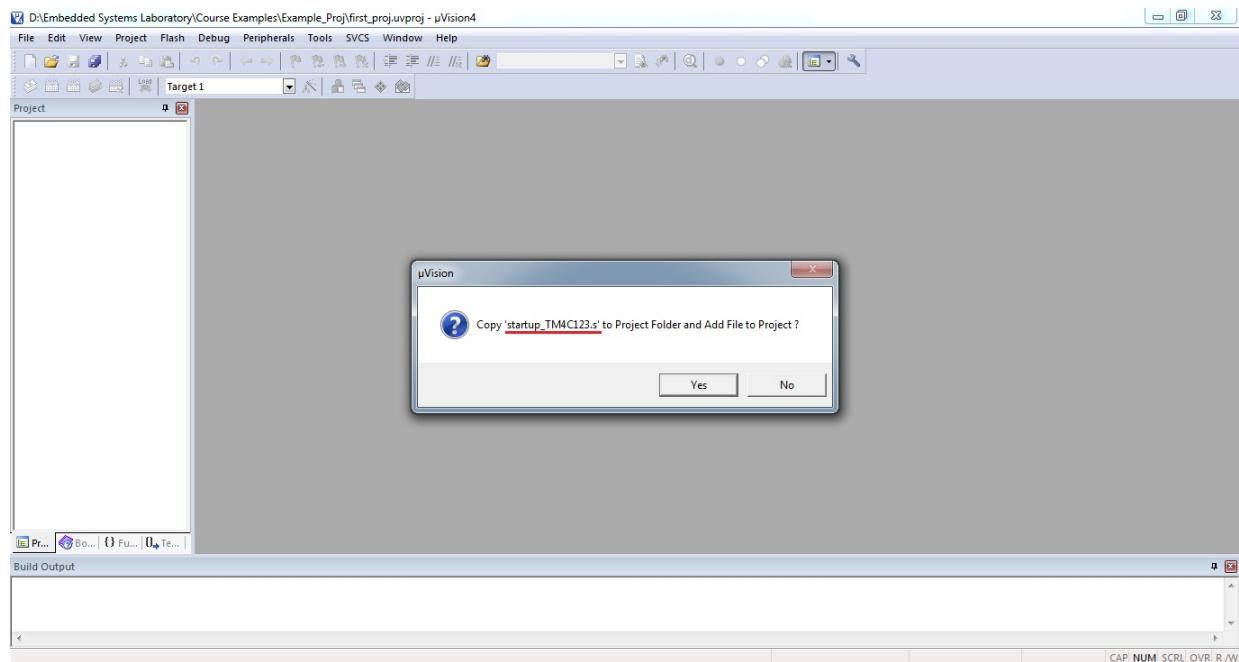

Figure 1.12: Add or discard the startup file to the project
5. When prompted to copy ‘**Startup_TM4C123.s** to project folder’ click on Yes or No according to the requirement of your project (Figure 1.12).